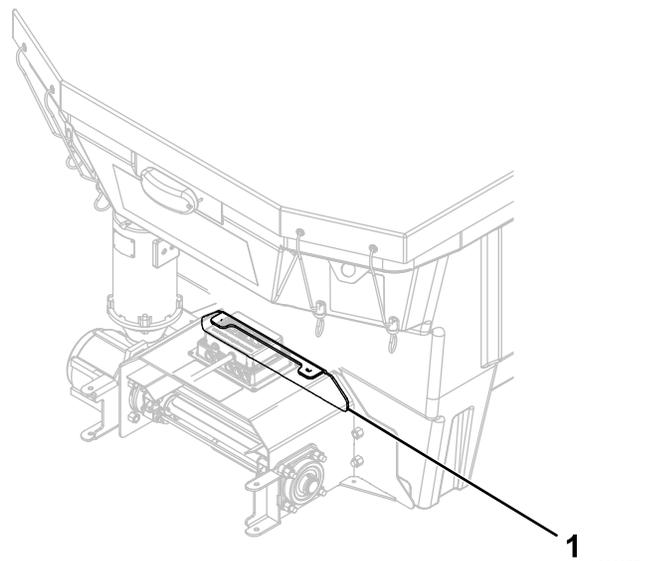

Figure 23
6. Insert the restrictor plate and secure it with 2 bolts and locknuts (Figure 23).